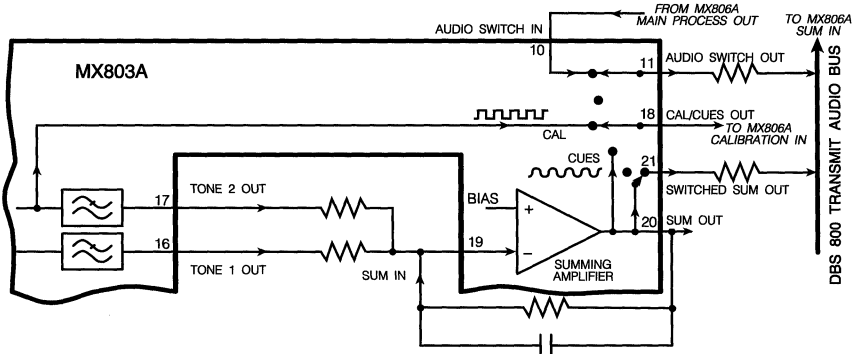

Figure 3 - Signal Switching
2. Resistors marked with an asterisk (*) are System Components whose values are calculated to allow the MX803A to operate with other DBS 800 microcircuits. Figure 3 shows these components used in the system signal paths.
See the signal switching diagram (Figure 3) for application examples.
Used to interrupt the MX803A drive to the MX806A Audio Processor (see Figure 3, Signal Switching).